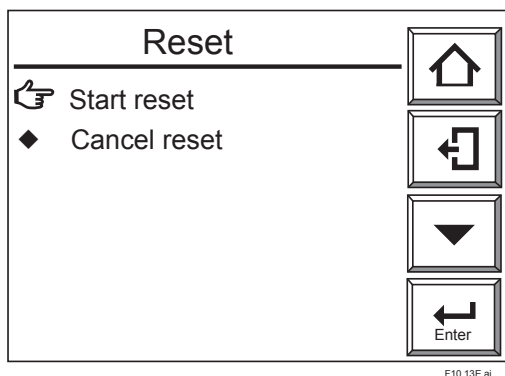

Figure 10.13 Reset Display
- (1) Press the [Setup] key in the Basic panel display to display the Execution/Setup display.
- (2) Choose “Reset”. The Reset display shown in Figure 10.13 appears.
- (3) Choose “Start reset” and then press the [Enter] key to reset the equipment and the equipment will then be in its warm-up state.